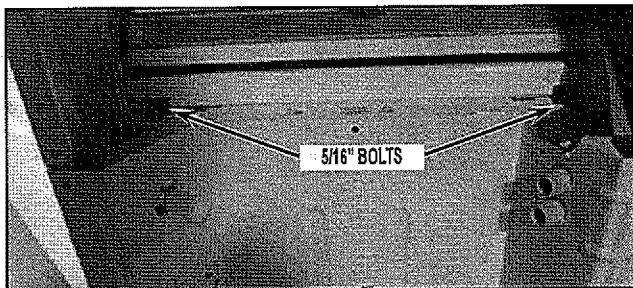

FIGURE 2
3. Remove the two (2) 5/16" bolts that attach top. See *Figure 2*.